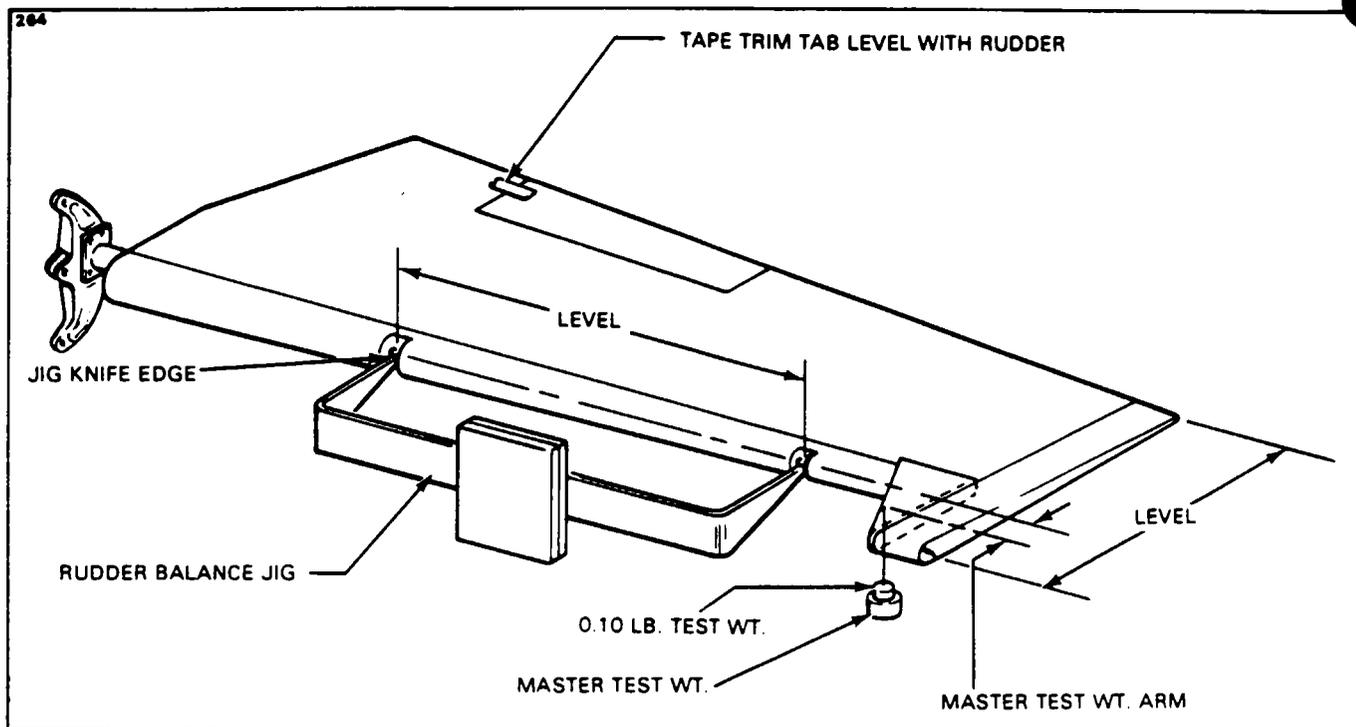

Figure 55-4. Rudder Balancing
**RUDDER BALANCING PROCEDURE.** (Refer to Figure 55-4.)
3. Fabricate a master test weight per specifications given in Chart 5502 and hang it in the existing tool hole in the rudder counterbalance channel. Ascertain that the tool hole is located to provide the proper master test weight arm as shown in Figure 55-4 and specified in Chart 5502.